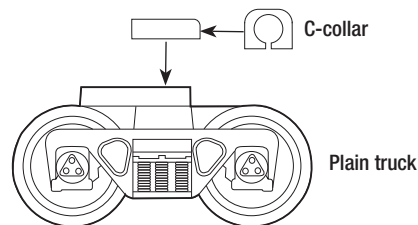

Figure 6. Installing the c-collar on the plain truck
- Add the C-collar to the plain truck. See figure 6.